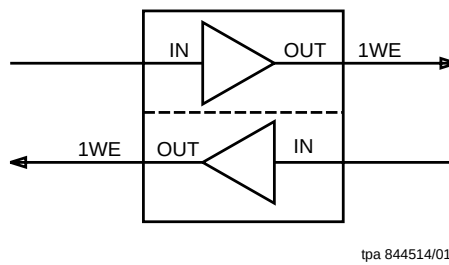

**Figure 2 – Regenerator**
**FT-2000 Repeater Bay/Shelf (Figure 2)**